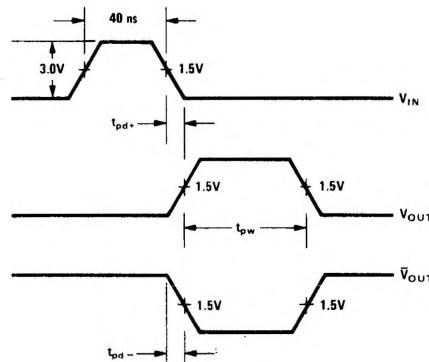

Figure 3
- Retrigger pulse width (see Figure 3) is calculated as follows: